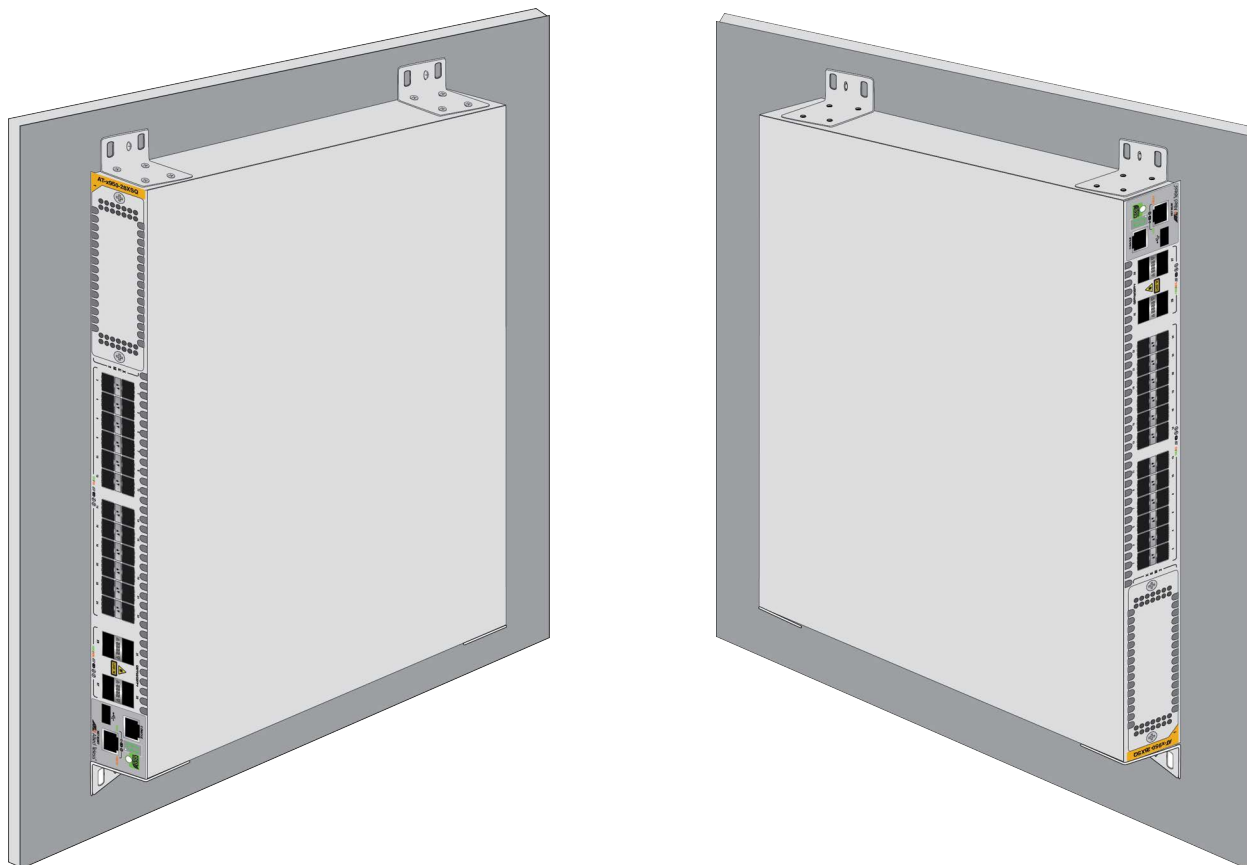

Figure 90. Positions of the Switch on the Wall
You can install the switch on a wall with the front panel on the left or right, as shown in Figure 90. Do not install it with the front panel on the top or bottom.
- ❑ Position the switch so that the front panel is either on the left or the right. Refer to Figure 90 on page 158. You may not install the switch with the front panel facing up or down.
- Position the switch so that the front panel is either on the left or the right. Refer to Figure 90 on page 158. You may not install the switch with the front panel facing up or down.